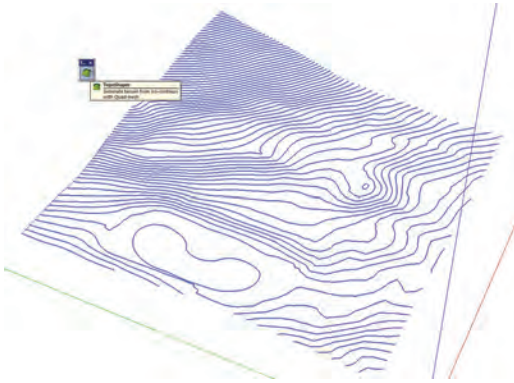

Fig. 15-6: Selecting the contour lines and activating TopoShaper
1. Select all the contour lines and activate TopoShaper (Fig. 15-6). TopoShaper has many options.